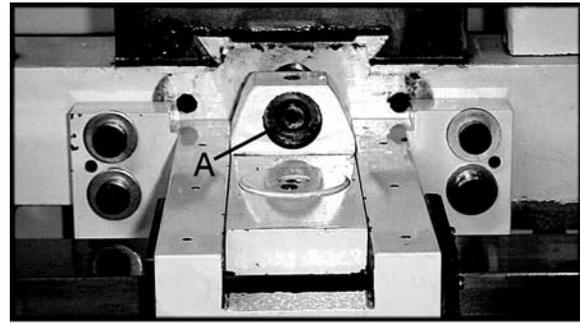

Figure 5
7. Center the cross feed screw (A, Figure 5) to the hole in the feed block. Turn the cross feed handle to make sure there is no resistance.